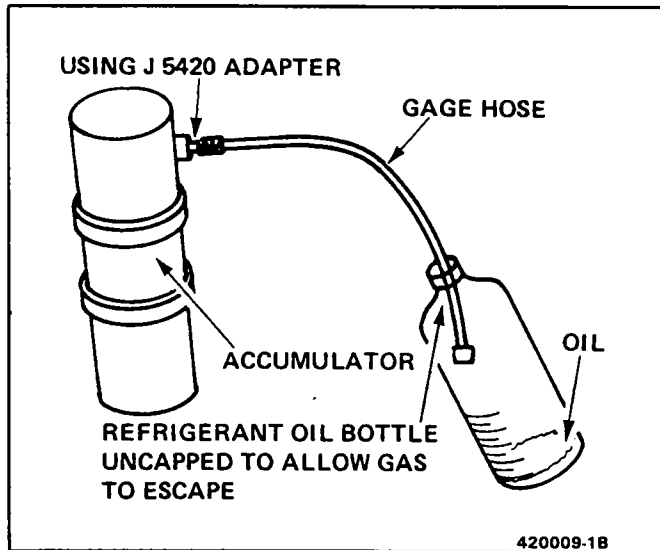

Figure 1B-9 Discharging the C.C.O.T. A/C System Without Charging Station
- With ignition turned "OFF," remove protective cap from LOW-SIDE service fitting on Accumulator and connect charging station J-23500-01 or equivalent gage set. If charging station J-23500-01 or equivalent is not being used, discharge system by slowly connecting a gage hose to low-side service fitting on accumulator and discharging into oil bottle (Fig. 1B-9). As hose is slowly tightened down onto Schrader valve, Refrigerant-12 will begin to discharge from the system into the container. If no discharge occurs,